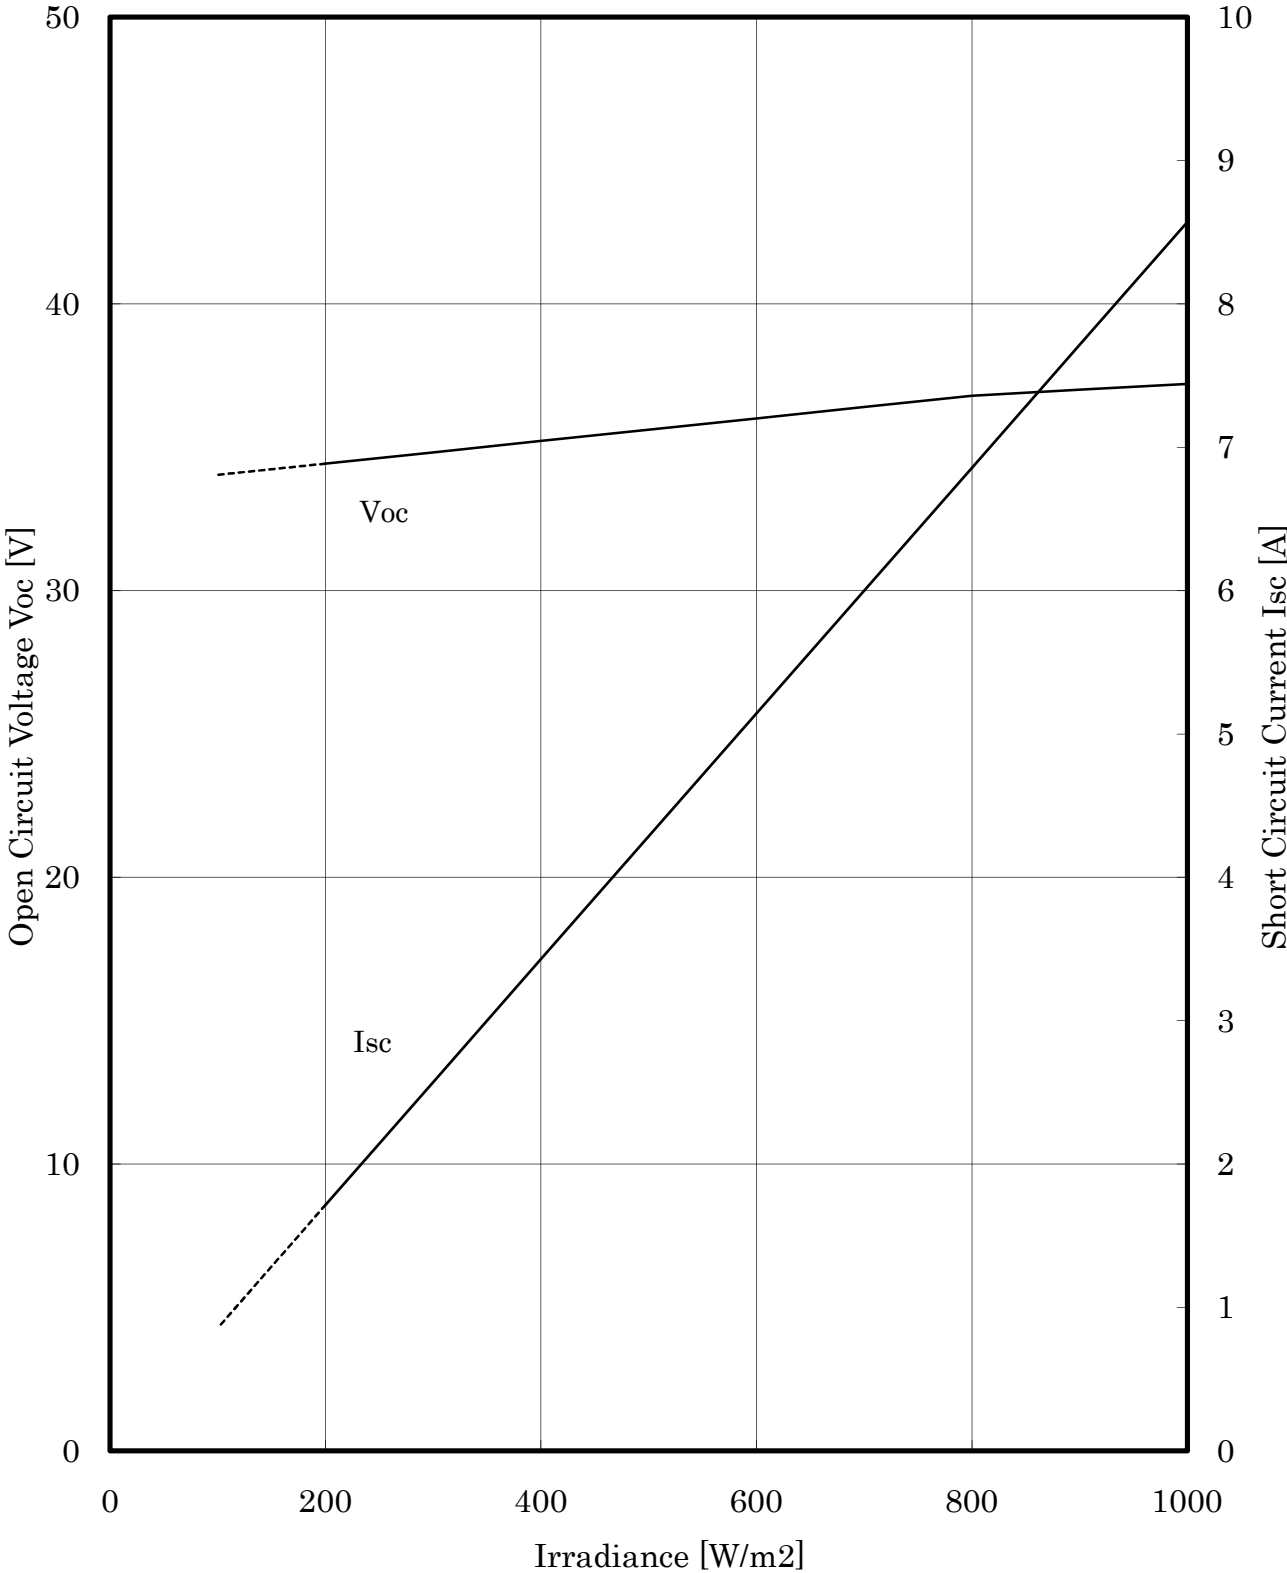

Fig. I -1: Open circuit voltage Voc, short circuit current Isc, versus Irradiance characteristics.
- (1) Fig. I -1: Open circuit voltage Voc, short circuit current Isc, versus Irradiance characteristics.